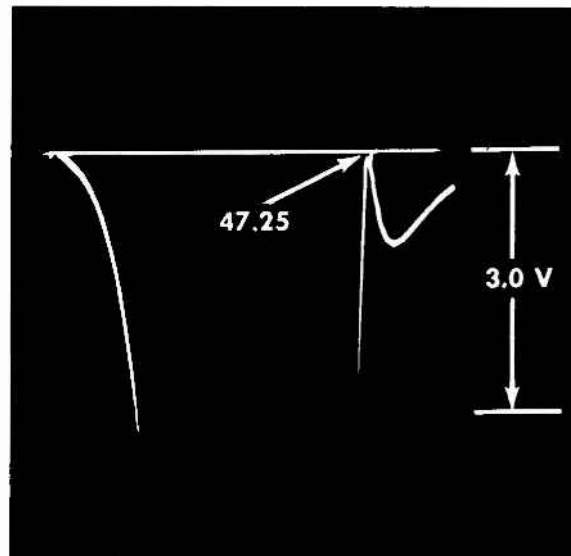

Fig. 11 Expanded View of the
5. Connect the sweep generator to terminal "A" (converter grid, Fig. 1 or 2 depending on tuner). Connect terminal "F" to chassis and connect a jumper between terminal "E" and the junction of the 68 and 1500 ohm resistors in the cathode of the first IF. This provides a "Blow Up" of the 47.25 Mc trap (Fig. 11). Adjust the 47.25 Mc trap for minimum marker amplitude.